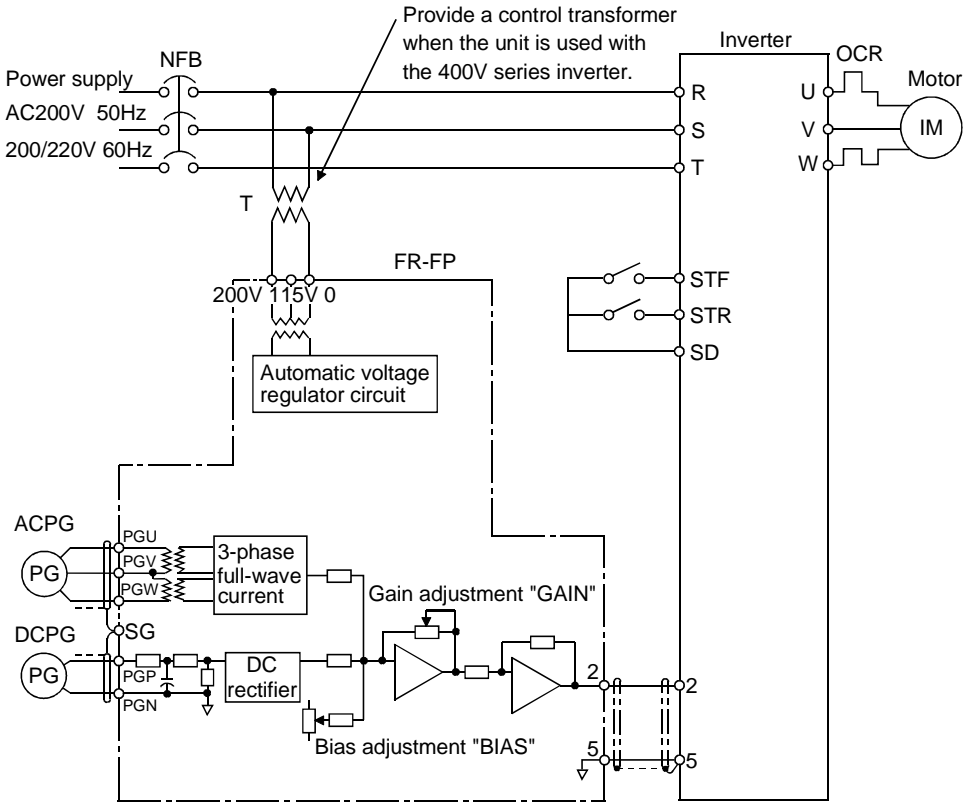

Fig. 3 Circuit Structure and Wiring Example
- (2) You can use a power supply of either single-phase 200V or 115V. When using a 200V power supply, wire it across terminals 200V-0. When using a 115V power supply, wire it across terminals 115V-0. Note that wrong wiring may burn the internal transformer. (Refer to Fig. 3 Wiring Diagram.)
- (3) When relay contacts are required in a signal line, connect two micro-current switching relay contacts in parallel (or a twin contact) to prevent a contact fault.
- (4) Use twisted or shielded cables as signal cables and run them away from the power cables.